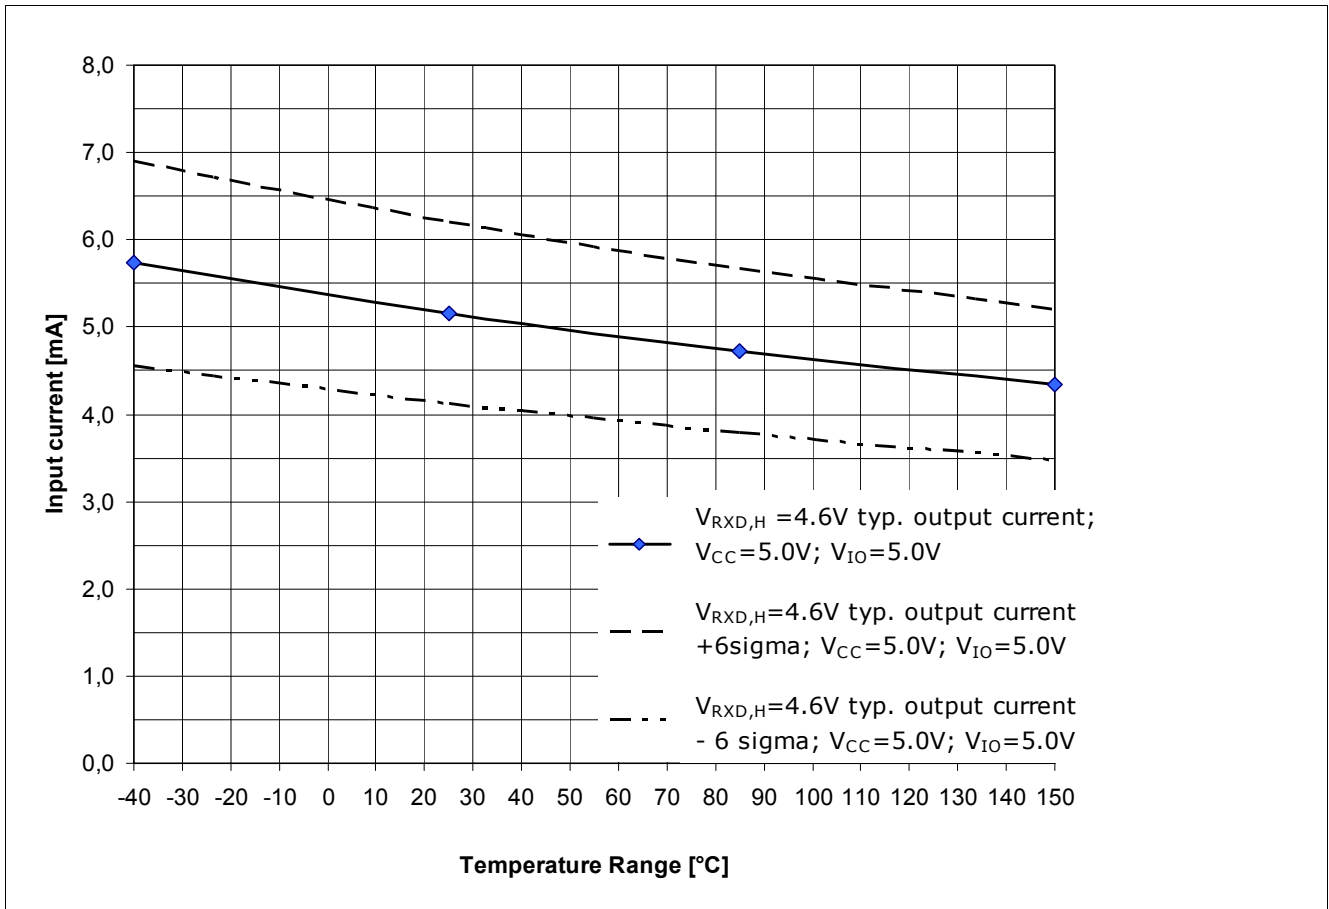
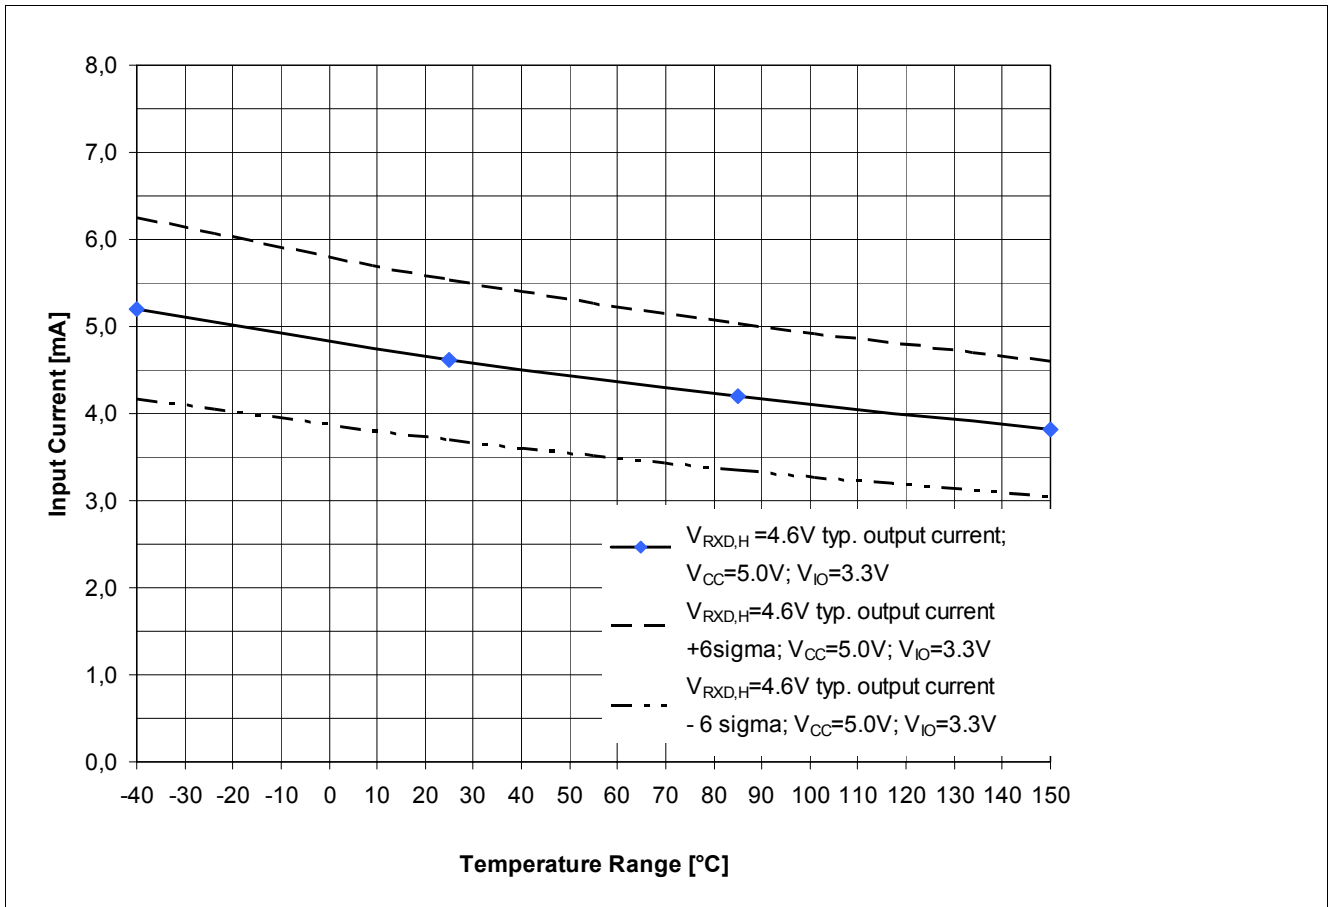

Figure 11 RxD Output driver capability for a logical “High” signal $V_{RxD,H}=4.6\text{ V}$, $V_{CC}=5.0\text{ V}$, $V_{IO}=5.0\text{ V}$ ¹⁾
Figure 12 RxD Output driver capability for a logical “High” signal $V_{RxD,H}=4.6\text{ V}$, $V_{CC}=5.0\text{ V}$, $V_{IO}=3.3\text{ V}^1)$
The diagram in Figure 11 shows the output current capability of the RxD output pin depended on the chip temperature T_J at a V_{IO} power supply of 5.0 V. Figure 12 shows the output current capability of the RxD output pin at a V_{IO} power supply of 3.3 V.
- The curve “ **$V_{RxD,H} = 4.6$ V; typical output current; $V_{CC} = 5.0$ V; $V_{IO} = 5.0$ V;**” displays the typical output current at the RxD output pin of the TLE8250GVIO (see Figure 11).
- The curve “ **$V_{RxD,H} = 4.6$ V; typical output current + 6 sigma; $V_{CC} = 5.0$ V; $V_{IO} = 5.0$ V;**” displays the expected maximum value of the output current at the RxD output pin (see Figure 11).
- The curve “ **$V_{RxD,H} = 4.6$ V; typical output current - 6 sigma; $V_{CC} = 5.0$ V; $V_{IO} = 5.0$ V;**” displays the expected minimum value of the output current at the RxD output pin (see Figure 11).
- The curve “ **$V_{RxD,H} = 4.6$ V; typical output current; $V_{CC} = 5.0$ V; $V_{IO} = 3.3$ V;**” displays the typical output current at the RxD output pin of the TLE8250GVIO (see Figure 12).
- The curve “ **$V_{RxD,H} = 4.6$ V; typical output current + 6 sigma; $V_{CC} = 5.0$ V; $V_{IO} = 3.3$ V;**” displays the expected maximum value of the output current at the RxD output pin (see Figure 12).
- The curve “ **$V_{RxD,H} = 4.6$ V; typical output current - 6 sigma; $V_{CC} = 5.0$ V; $V_{IO} = 3.3$ V;**” displays the expected minimum value of the output current at the RxD output pin (see Figure 12).